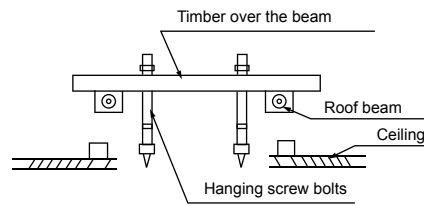

Fig.4-1
4.1 The units may be mounted vertically ,provided that the correct clearances for positioning are maintained. (Refer to Fig. 4-1 )